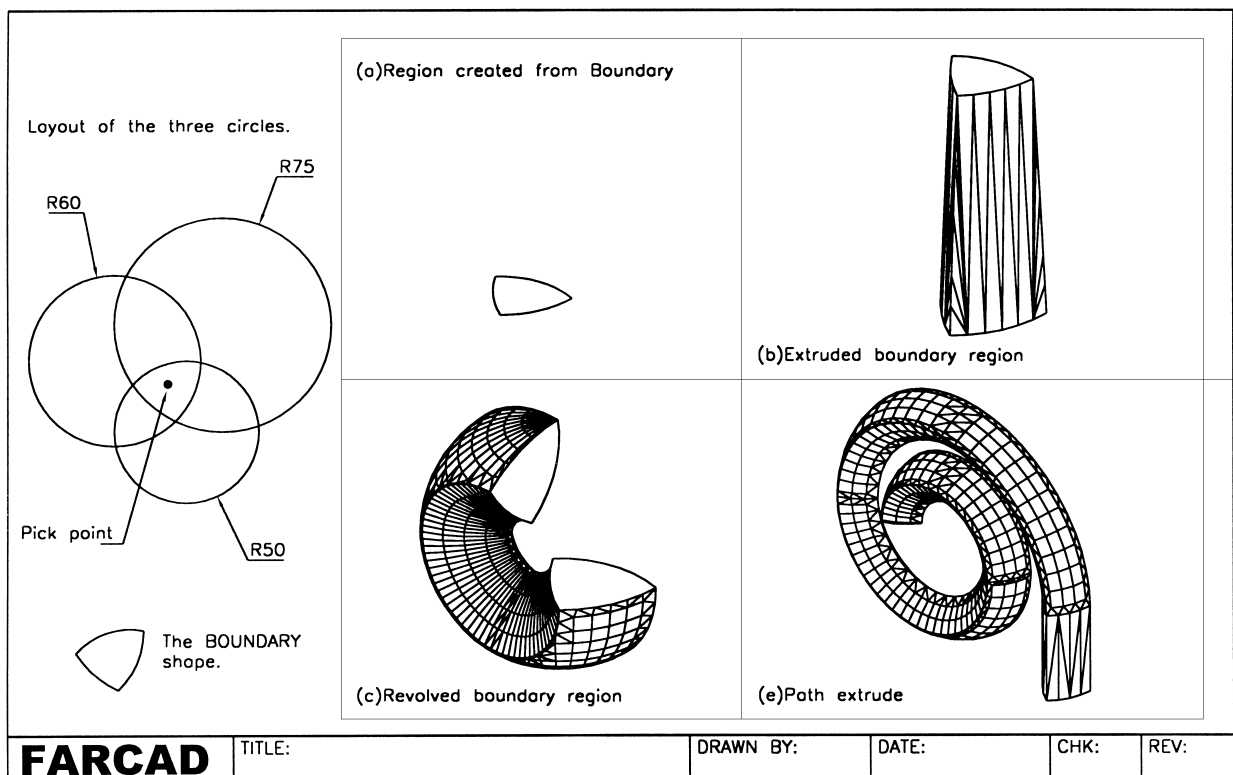

Figure 36.3 Region example 3 – created from a boundary.
- 1 Open your A3SOL template file as normal and refer to Fig. 36.3
- respond* **pick a point indicated in Fig. 36.3**